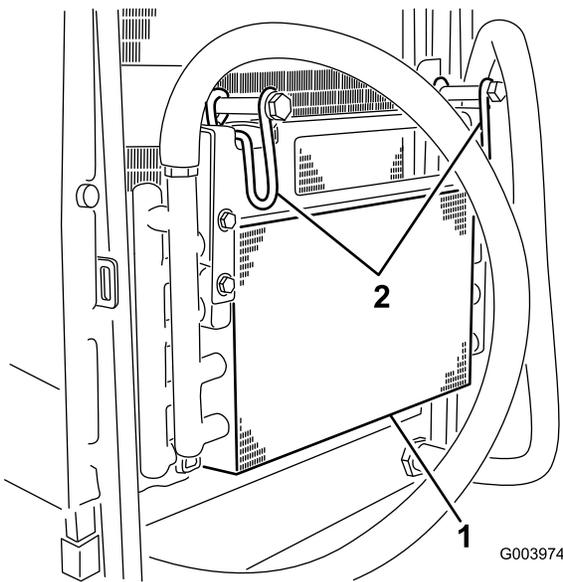

Figure 61
5. Pivot the latches inward to release the oil cooler (Figure 61).